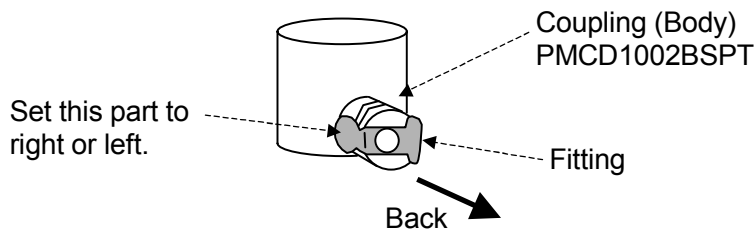

Fig. 5.19 Coupling (Body) orientation
2. Screw the coupling (body) into the Rc 1/8 threaded nipple on the backside of the water level sensor container with sealant tape. Orient the coupling (body) fitting as shown in Fig. 5.19.